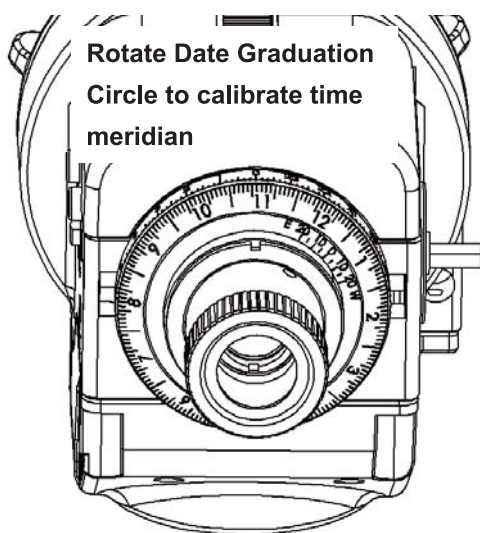

Fig 29
4. **Adjust the Date Graduation Circle** first according to difference between the standard time meridian of your region and the observing site. For example, if you are in Prince Rupert, Canada which is 130 ° west, then you have to turn the **Date Graduation Circle** to make the **Time Meridian Indicator** point to West 10 (which is 130° -120°)(Fig 29).